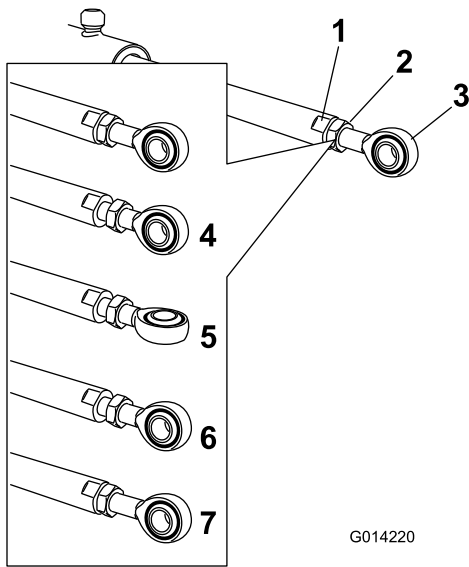

Figure 61
5. Use a wrench on the flat sides of the actuator rod to immobilize it, then loosen the jam nut to allow the eyelet rod to be adjusted (Figure 61).
- Turn the eyelet rod in the actuator rod to shorten or lengthen the extended actuator to the desired position (Figure 61).